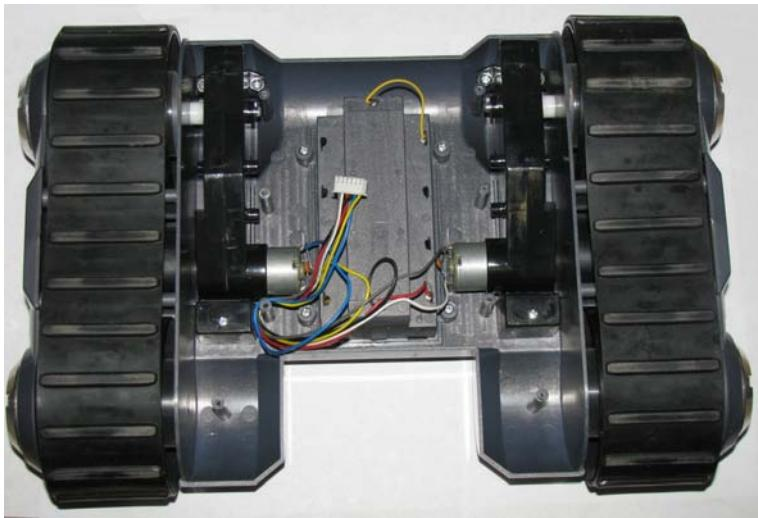

Figure 5-10. Here you can see the underside of the frame base, including both drive motors attached into the black gear boxes and the wiring harness.
As you can see in Figure 5-10, using perf-board looks a bit messy because there are several wires running on the top of the board, but if each connection is soldered properly, it will work just as well as an etched PCB.
1. *Strip frame down to motors and base:* If salvaging an old toy, you can remove all of the **electronics** because you will build your own motor-controller and the Arduino will provide the control signals. All that is needed, is access to the terminal wires of each motor. In Figure 5-10, the battery compartment is in the center of the base and a 6-pin plug is used to connect both motors and the power supply wires to the main board.